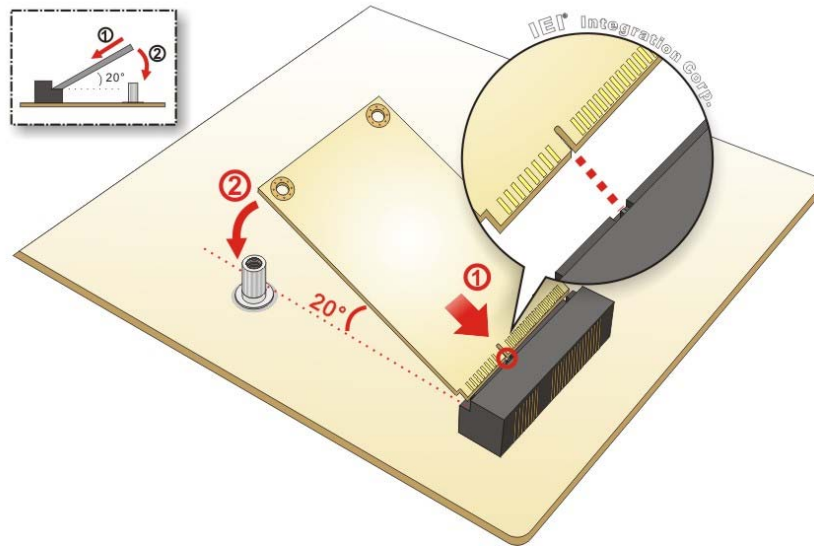

Figure 4-10: Inserting the mSATA Module into the Socket at an Angle
Step 3: **Insert into the socket at an angle.** Line up the notch on the module with the notch on the connector. Slide the mSATA module into the socket at an angle of about 20° (**Figure 4-10**).